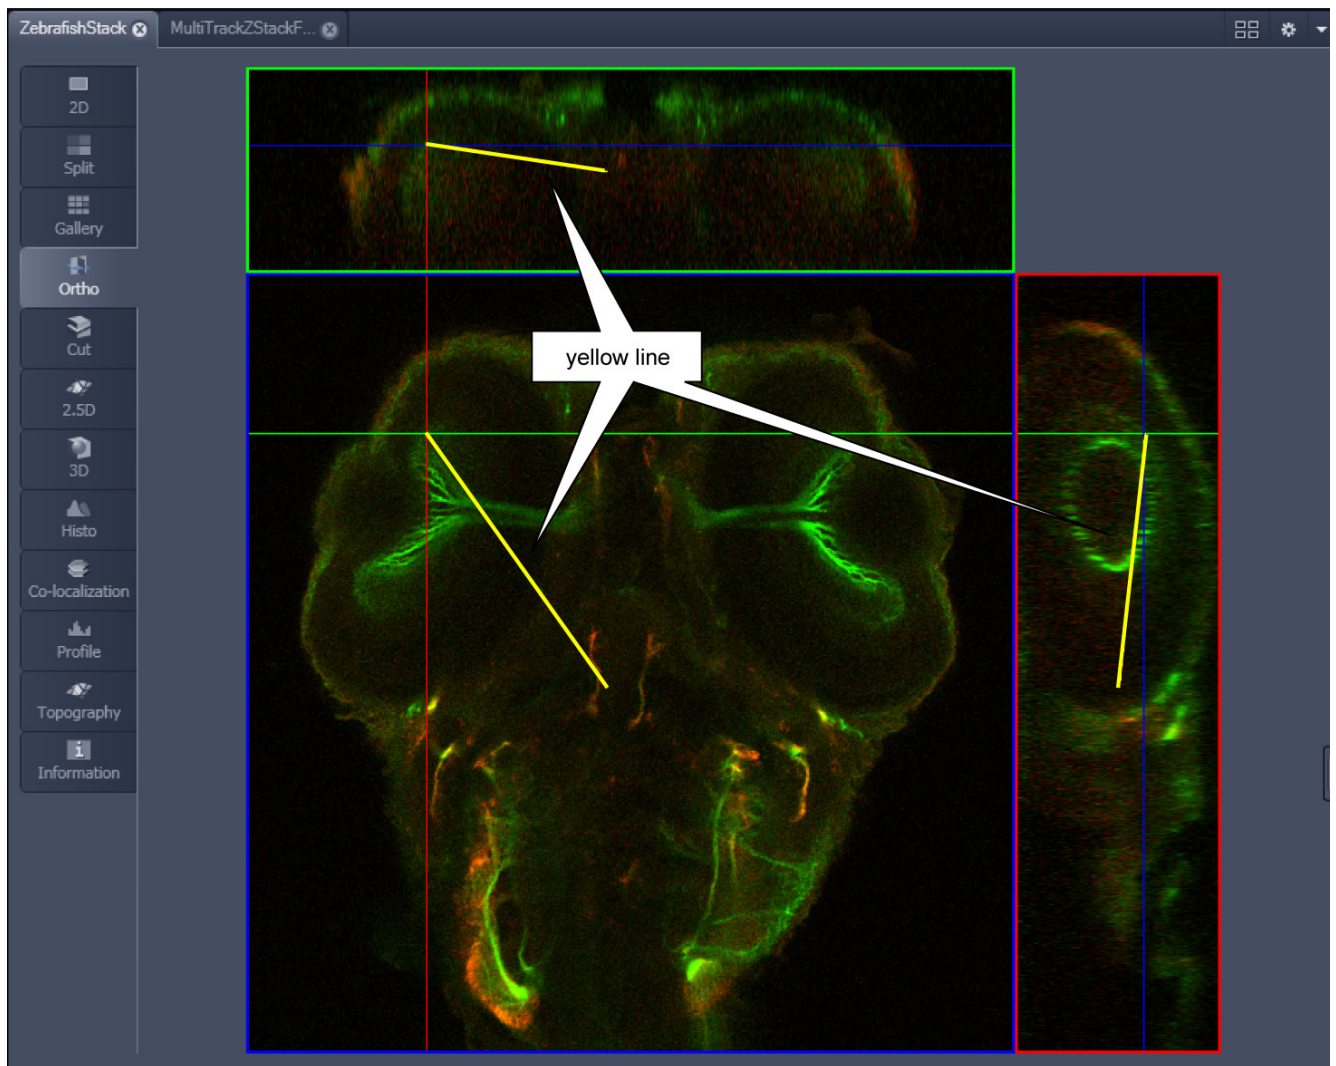

Fig. 182 Image Display – Ortho View - 3D Distance Measurement display
- The projections of the spatial distance are shown in the image planes by yellow lines (Fig. 182). The actual spatial distance is calculated and shown in μm next to the **Mark** button.